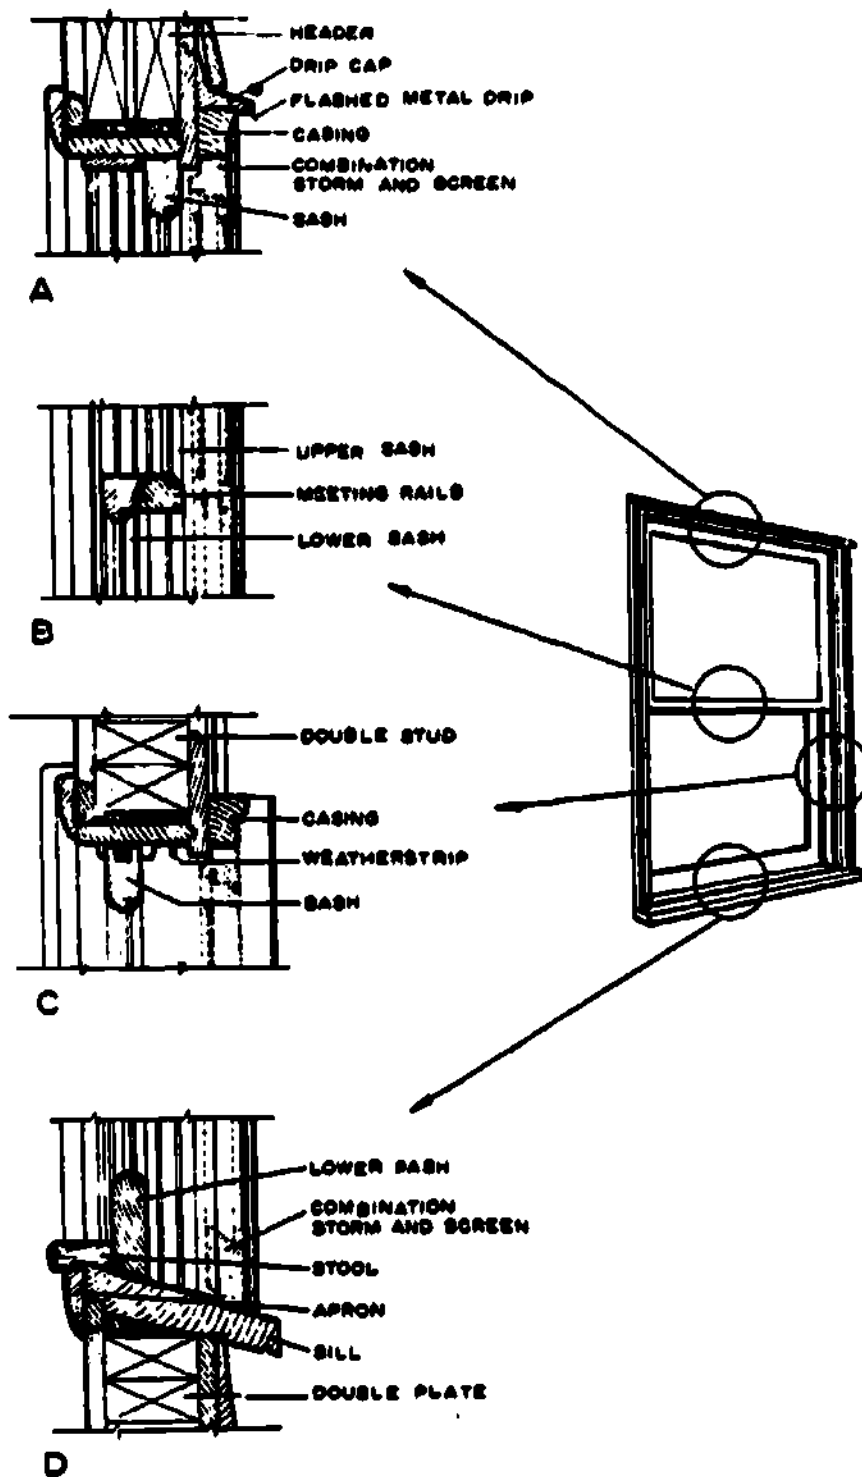

Fig 3-28. Double-hung window details.
Details shown on double-hung window. The double-hung window is perhaps the most familiar type of window. It consists of an upper and lower sash that slide vertically in separate grooves in the side jambs or in full-width metal weatherstripping. The top of the window frame is called the head. The sides of the window are called jambs. The bottom is called the sill. Figure 3-28 shows a double-hung window with four (4) details and the location from which the detail is taken. Figure 3-28A shows a cross section view of the head. Figure 3-28B shows a cross section view of the meeting rails. Figure 3-28C shows a cross section view of the side jamb (notice that the jamb section is a plan view, looking down).